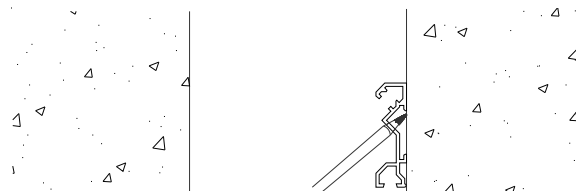

Figure 3
STEP 6. Using the base member as a template, mark the locations for the anchor holes on the substrate (see Figure 3).